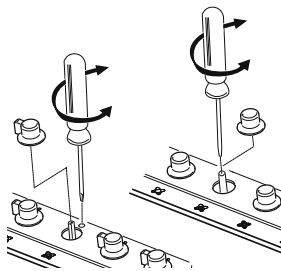

Fig. 8: adjustment of the minimum
2. Remove the gas tap knob and turn the adjustment screw [Fig. 8] inside or on the side of the tap rod (depending on the model), until a regular minimum flame is obtained. When a two-way gas tap is present [see Fig. 12-13] there are two screws for minimum gas flow adjustment.